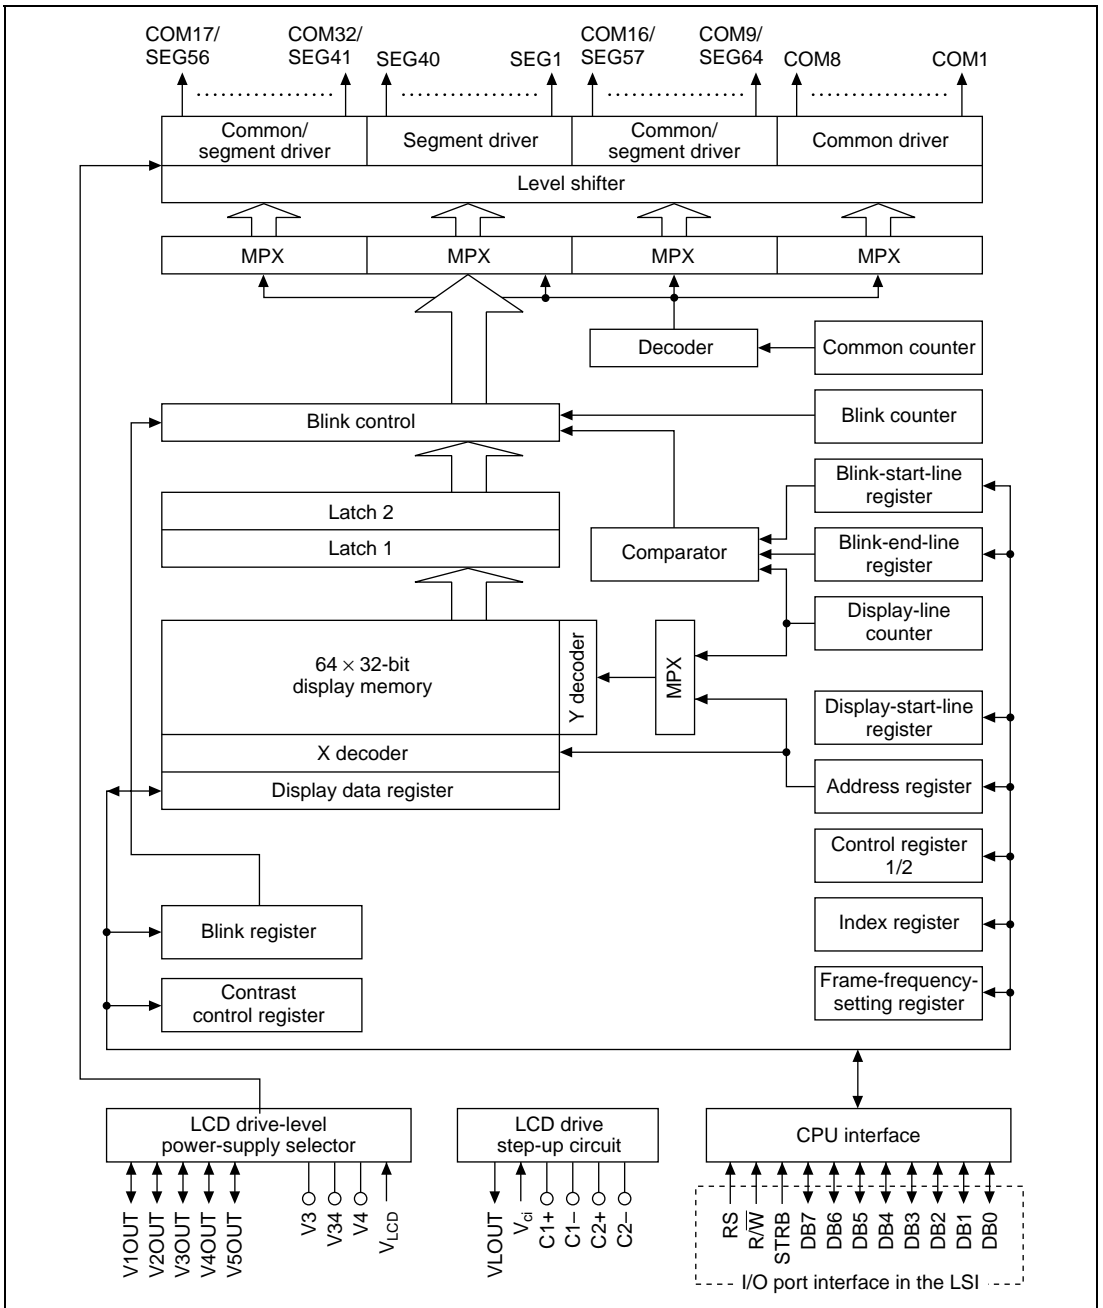

Figure 2 Block Diagram of the Dot-matrix LCD Controller
2. Figure 2 shows a block diagram of the dot-matrix LCD controller used in this example.